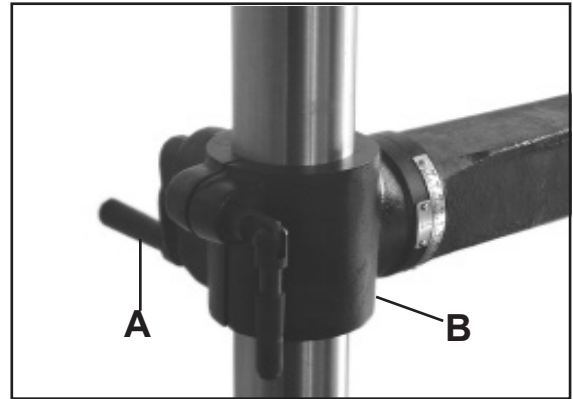

Figure 21
1. Loosen the column lock (A-Fig.21) on the table support bracket (B-Fig.21).
3. Tighten the column lock (A-Fig.21).